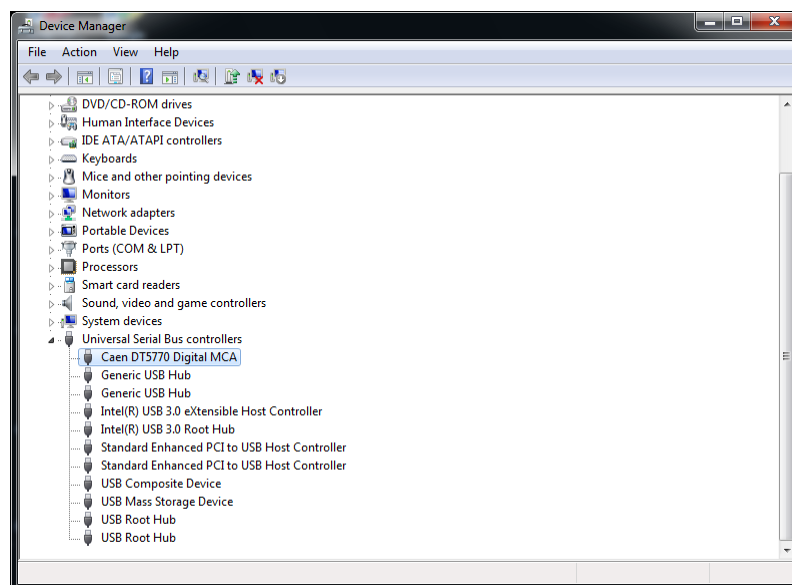

Fig. 10.5: Device recognized
7. The device is now recognized by the operating system and listed in the “Device Manager” area (see Fig. 10.5).